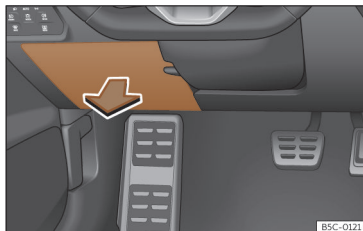

Fig. 52 On the driver's side dashboard: fuse box cover.
- *Open*: fold the cover down»» Fig. 52.